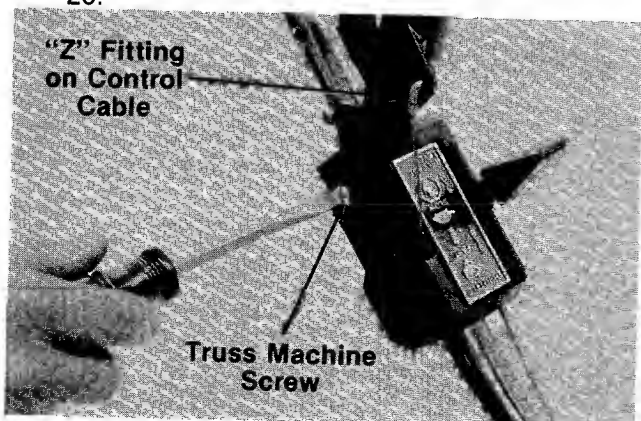

FIGURE 20.
5. Remove one truss machine screw on the inside of the control housing as shown in figure 20.